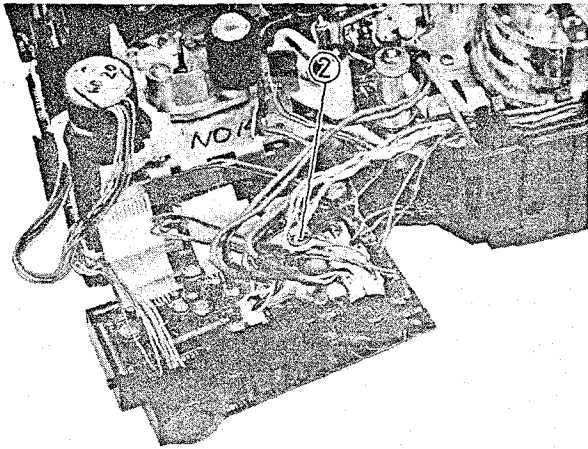

Fig. 2-58 Full Erase (FE) Head Removal
Full Erase (FE) Head Removal (Figs. 2-58, 2-59, 2-60)
2. Disconnect connector CN416. (See Fig. 2-58)